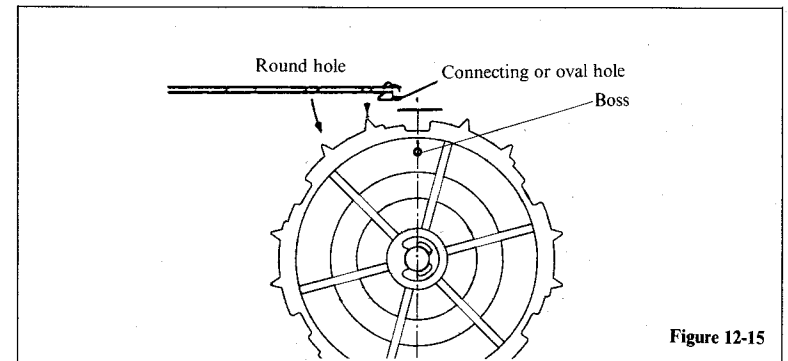

Figure 12-15
- 5.1 Take the belt connecting pin such that it is on the inside and place it, fitting onto the bevel gear Z32 as shown in the figure 12-15.